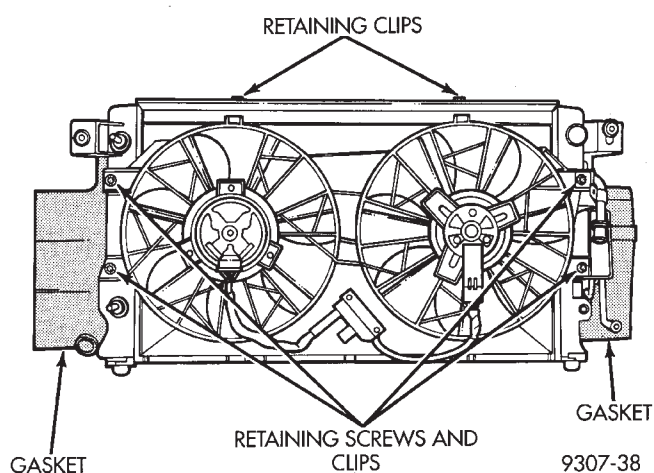

Fig. 13 Servicing Fan Module
All models use electric motor driven fans. The fan modules include a motor support and shroud. The module is fastened to the radiator by screws with U-nuts and retaining clips (Fig. 13).
(1) Disconnect electric lead to the RFI module.
(2) Remove fan module to radiator fasteners and retaining clips (Fig. 13).
(3) Remove assembly from radiator.
(1) Remove the motor fasteners from support (Fig. 13). Remove motor from support.
(2) Reverse the above procedure for Installation. Torque the fan motor fasteners to 3 N•m (25 in. lbs.) right fan and 5 N•m (45 in. lbs.) left fan.